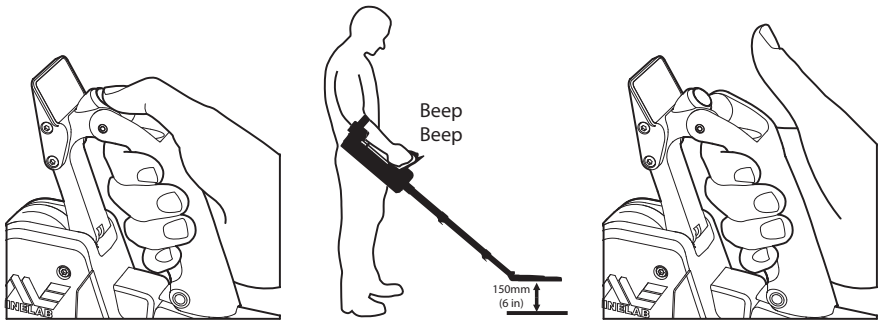

Figure 15: Ground Balance procedure
- a. Press down and hold the Ground Balance button. Slowly lower the coil directly to the ground then lift the coil up again 150 mm (6 ins). Refer to Figure 15.